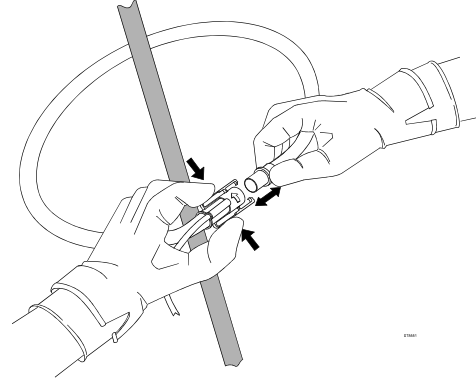

Figure 1. Connecting the flexible probe around the conductor.
- Connect the flexible probe around the conductor (See Figure 1.)